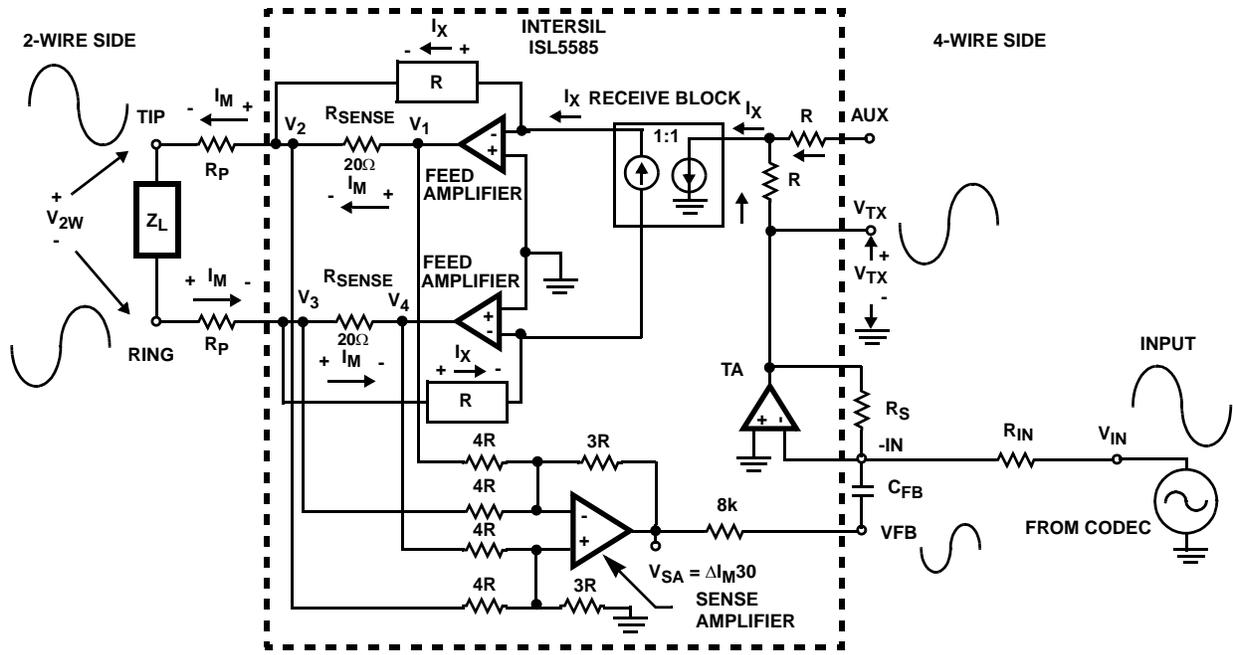

FIGURE 6. 4-WIRE TO 2-WIRE SIGNAL PHASE ACROSS THE ISL5585
Figure 6 illustrates the phase of the input signal across the ISL5585 when the signal is applied at the -IN pin of the ISL5585 through the  $R_{IN}$  resistor. The Transmit Amplifier (TA) inverts the signal 180 degrees at the VTX pin. The feedback around the tip amplifier inverts the signal again on the tip lead. The input signal will cause AC loop current to flow through the 20Ω sense resistors in the direction from V1 to V2 and V3 to V4. This results in an inverted signal (referenced from tip) on the VSA and thus the VFB pin. This out of phase signal is the signal used by the feedback path to match the line impedance of the 2-wire side.